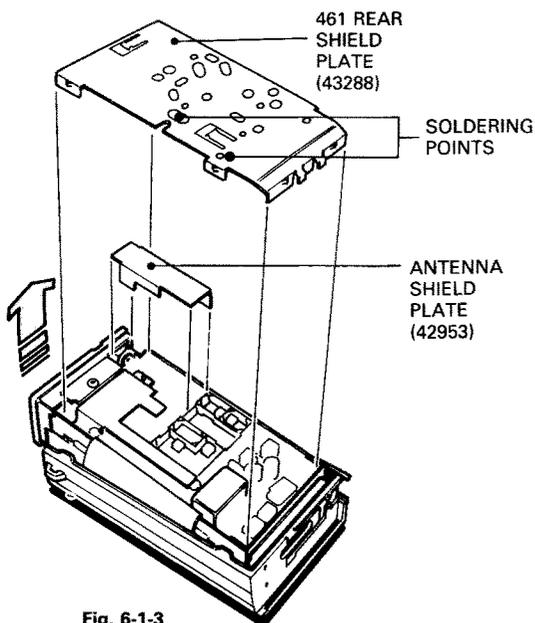

Fig. 6-1-3
4. Unsolder the point shown in Fig. 6-1-3 and then remove the REAR SHIELD PLATE.
5. Slide the inner frame upward slightly as shown in Fig. 6-1-3, and lift the frame away from the FRONT CASE. Be sure not to damage the flexible boards while removing the FRONT CASE.